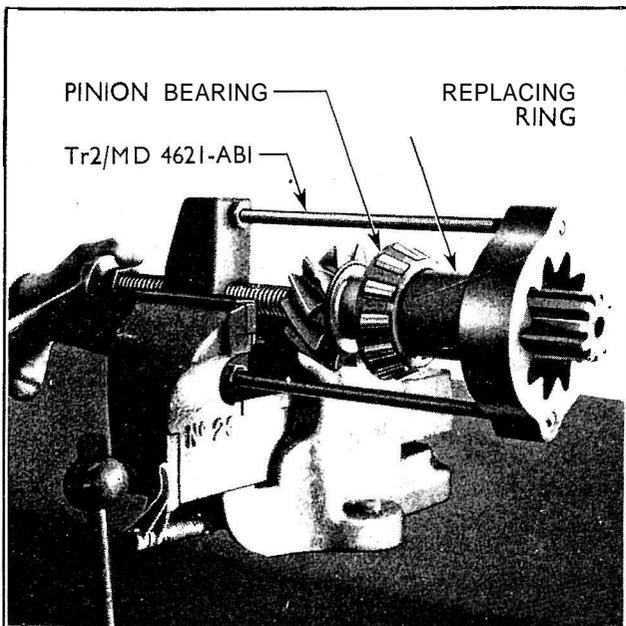

Fig. 176
- 1 Replace the rear pinion bearing, using tool No. Tr2/MD 4621-AB1 (see Fig. 176).